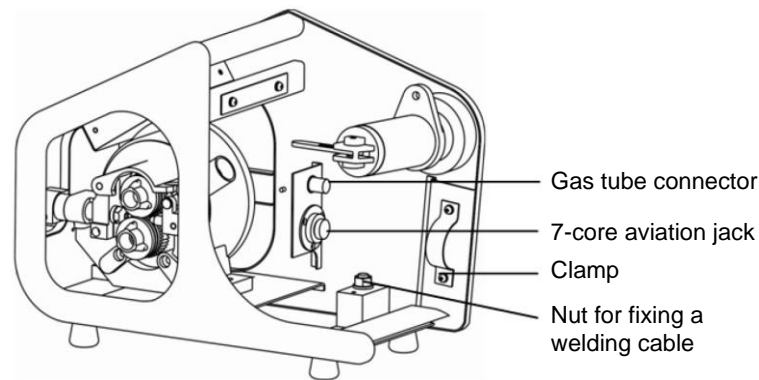

Figure 2-7 Schematic diagram of connecting the wire feeder
1. Fix the 7-core control cable, gas tube, and positive output welding cable with the clamp at the rear of the wire feeder. See Figure 2-7.